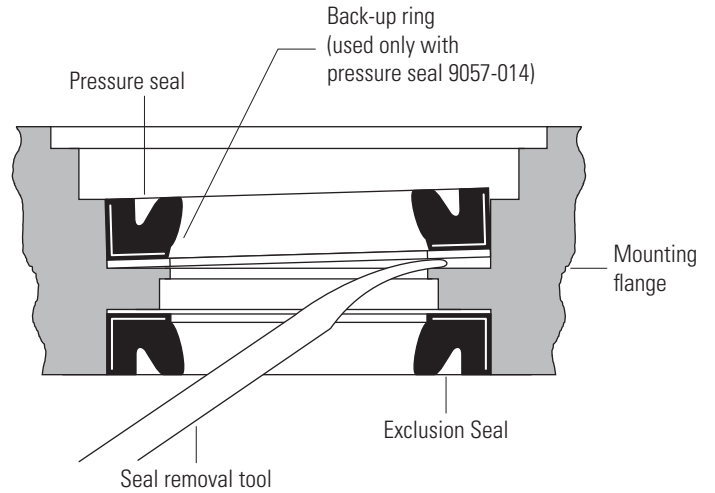

Figure 4
7. Carefully remove the exclusion seal, pressure seal, and backup ring from the mounting flange. A seal removal tool may be fabricated by bending and rounding the end of a small blade screwdriver, see Figure 4